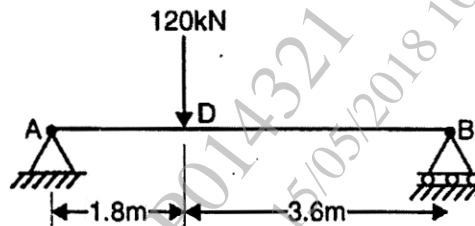

Fig. No 05
- b) The horizontal beam as shown in Fig. No 05 is hinged at point 'A' and supported on roller at point 'B'. It carries a vertical load of 120 kN at point 'D'. Determine deflection at point 'D' by taking $E = 200 \text{ GPa}$ and $I = 160 \times 10^6 \text{ mm}^4$